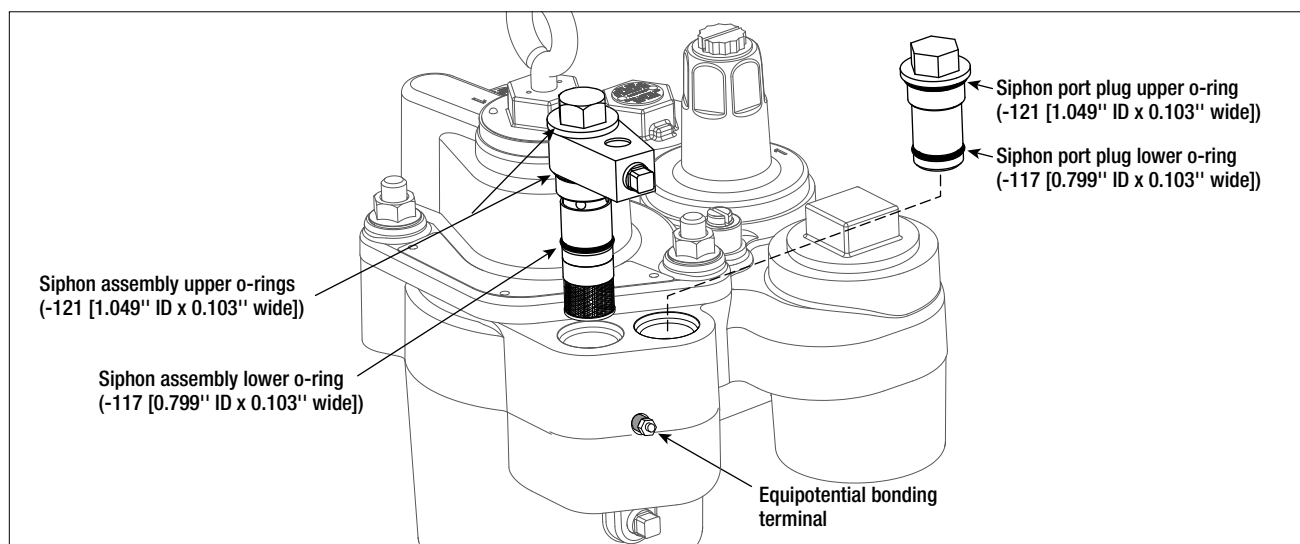

Figure 23. Inserting Siphon Assembly into Manifold
5. Insert the siphon cartridge into the siphon port (see Figure 23). Swivel the outlet port of the siphon in the desired direction, and then hand tighten the siphon's retaining hex body. Torque the body to 25 - 30 ft-lbs (34 - 41 N•m).